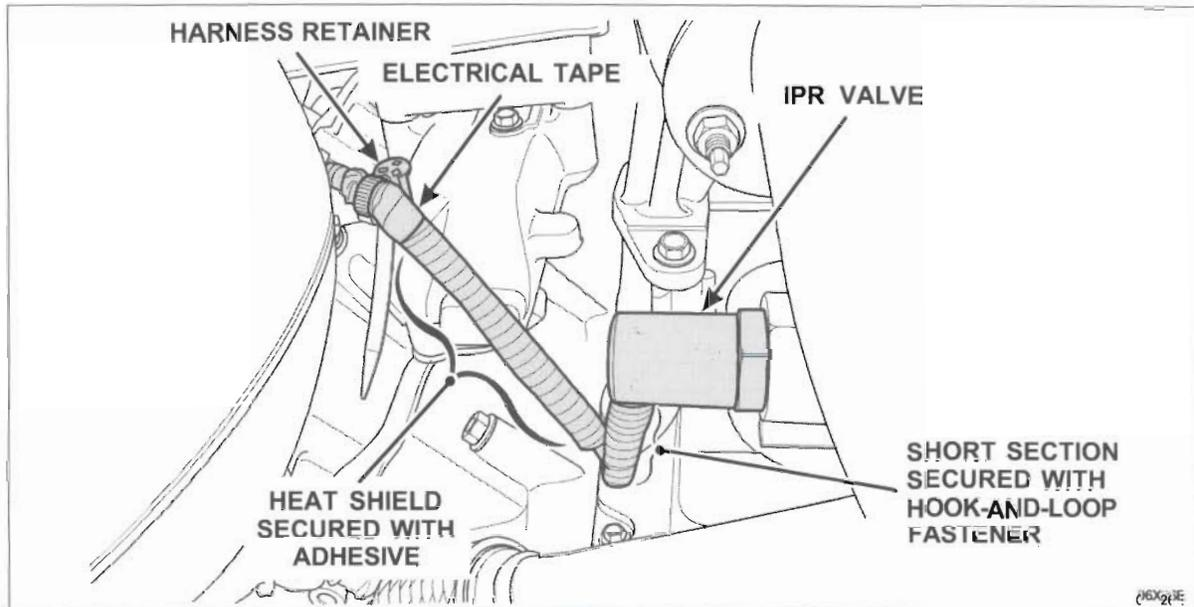

FIGURE 5
- h) Complete the heat shield installation by wrapping the short section around the IPR connector and secure with the hook-and-loop fastener. See Figure 5.
- i) Using plastic electrical tape, secure the heat shield to the harness convolute at the end of the shield, away from the connector. See Figure 5.
- j) **Rotate the IPR valve housing so the connector is pointing down at the 6 o'clock position.** See Figure 5. **This will help prevent water from entering the connector.**
- k) Install the **new** harness retainer onto the intake manifold stud, then secure the strap around the heat shield. See Figure 5.
- d) Complete the heat shield installation by wrapping the short section around the IPR connector and secure with the hook-and-loop fastener. See Figure 5.
- e) Using plastic electrical tape, secure the heat shield to the harness convolute at the end of the shield, away from the connector. See Figure 5.
- f) **Rotate the IPR valve housing so the connector is pointing down at the 6 o'clock position.** See Figure 5. **This will help prevent water from entering the connector.**
- g) Install the harness retainer onto the intake manifold stud then secure the strap around the heat shield. See Figure 5.